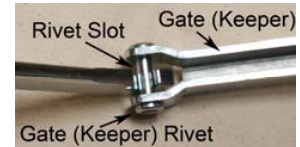

Fig. 1
- Gate (keeper) rivet is properly seated / positioned in the rivet slot of the snaphook bill. (rivet should be centered and resting against snaphook body surface). (Fig. 1)
- > Keeper extends into the bill, 3/16" min. (Fig. 1)
The configuration of the Buck Hook™ will fit around a 5 7/8" x 5 7/8" section of angle steel (see Fig. 1). When installed, the major axis position of the Buck Hook™ shall be aligned within + 45° from vertical.